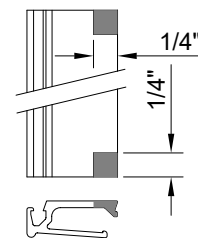

FIGURE 5
STEP 2: Make a 1/4" by 1/4" notch at each end of the vertical glazing adapter. Notch should be made on the face side of the adapter nearest the gasket region as shown. (Figure 5)